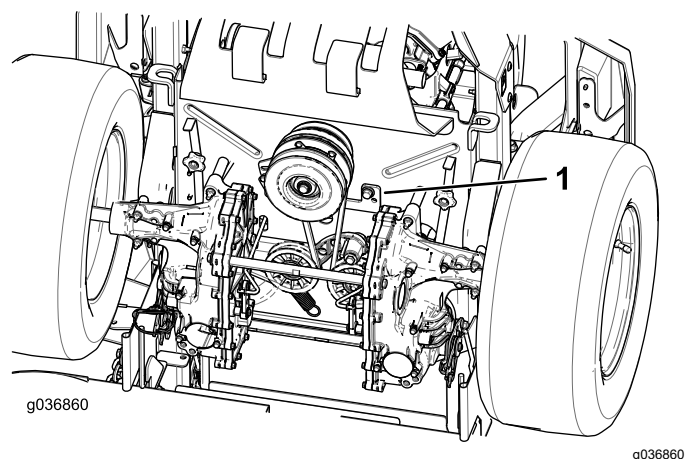

Figure 64
5. Remove the clutch stop (Figure 64).
9. Install the clutch stop (Figure 64).